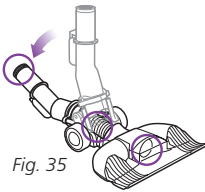

Fig. 35
- Straighten out the neck and look inside the tube at the top of the nozzle. Check for blockages where the hose bends and in the intake opening. (Fig. 35)